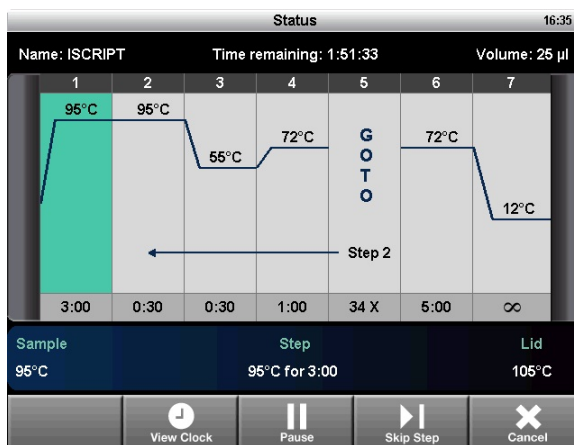

Figure 17. The Status screen.
6. The **Status** screen opens (Figure 17). The run progress can be monitored in two views:
- **Status**— a graphical view of the protocol and the current step in progress (Figure 17)